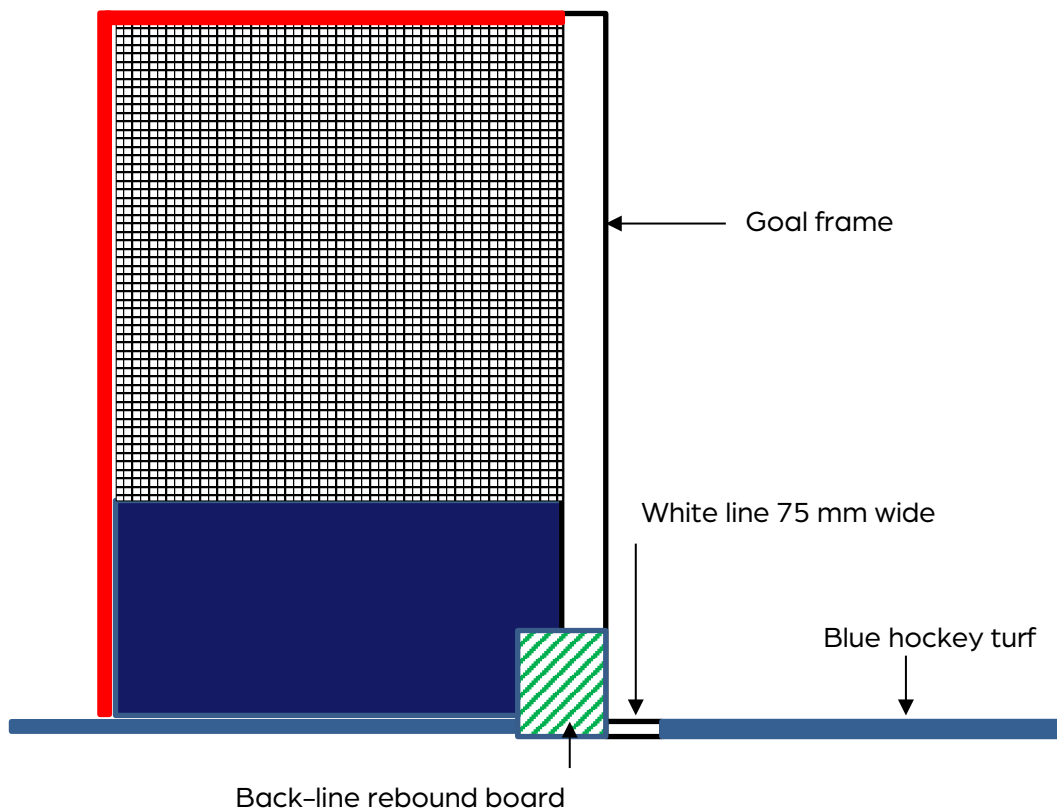

Figure 3 – goal line position
- Goal lines, 75 mm wide and marked within the goal frame so the back of the line is level with the front of the goal frame and back-line rebound boards, as shown in Figure 3.